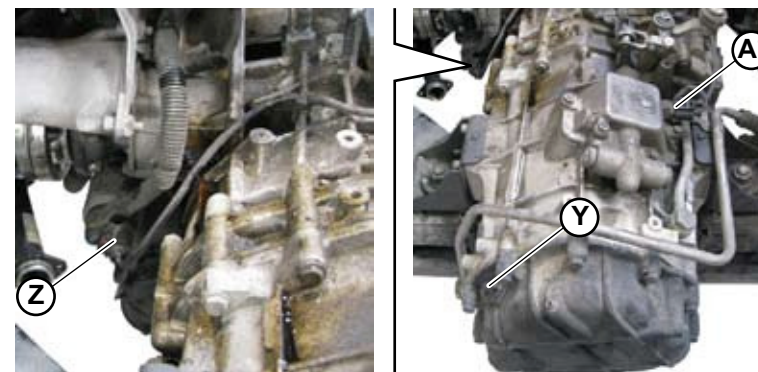

Fig.12
21. Connect the speed sensor connector (**Y-Fig.12**).
22. Connect the cable connector (**Z-Fig.12**) originating from the starter.
23. Connect the cable connector (**A¹-Fig.12**) originating from the gear selector (reverse gear).